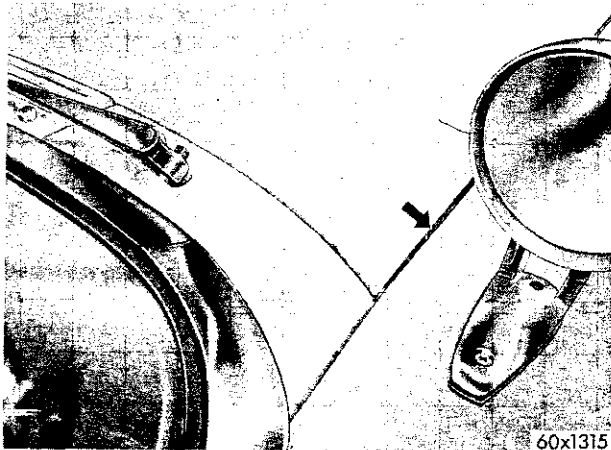

Fig. 5—Aligning the Hood at the Cowl
(1) Prop the hood open to relieve the tension on the hinge springs.
(2) Loosen the bolts attaching the hood to the hinge plate. Move the hood forward until the correct spacing has been obtained, then tighten attaching bolts securely and test the fit of the hood. (Refer to Fig. 5.) When moving the hood forward or rearward, it is suggested that the hood latch adjustment be measured.